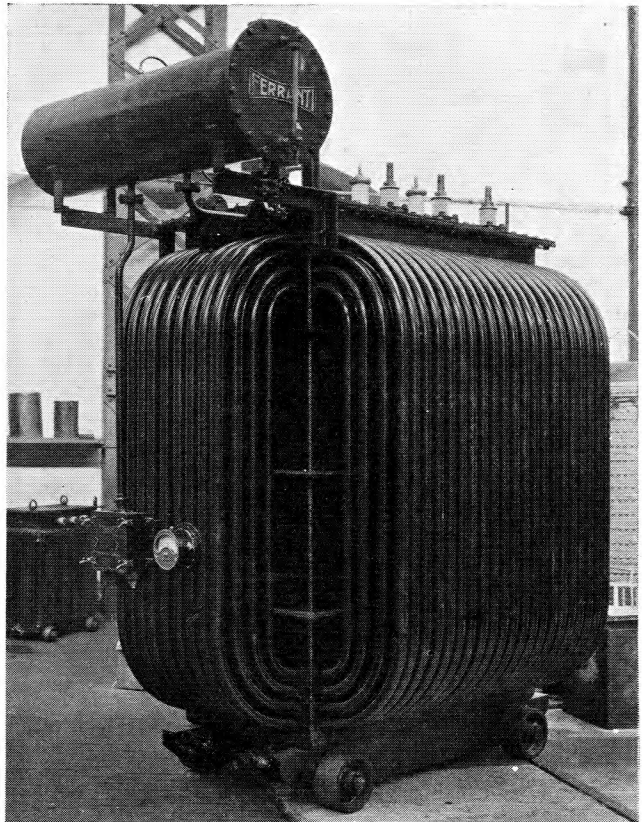

Fig. 1.—VIEW OF TRANSFORMER SHOWING OIL CONSERVATOR AND BREATHER (Ferranti, Ltd.).
### (1) Oil Conservators (Fig. 1).